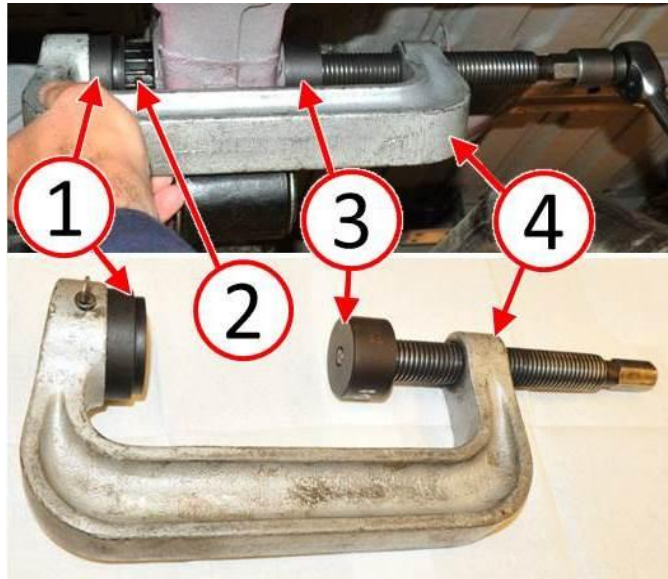

Fig. 11 Press In Outer Bushing
13. Press the bushing (2) into the frame, using the Press C-4212F (4) with Installer 8859-3 (1) installed on fixed end and Remover 9356-2 (3) installed on threaded end with the flat side of Remover (3) facing toward the clamping surface as shown in (Fig. 11).